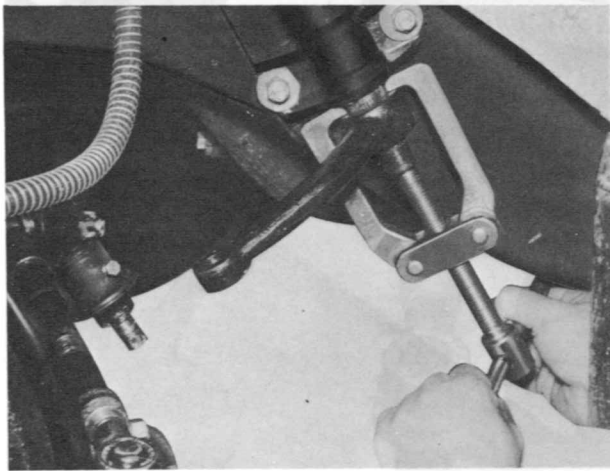

Fig. 10-5 Removing pitman arm
2. Remove the nut attaching the pitman arm and remove the pitman arm with the **pitman arm puller** (Part No. 49 0223 695C), as shown in Fig. 10-5.